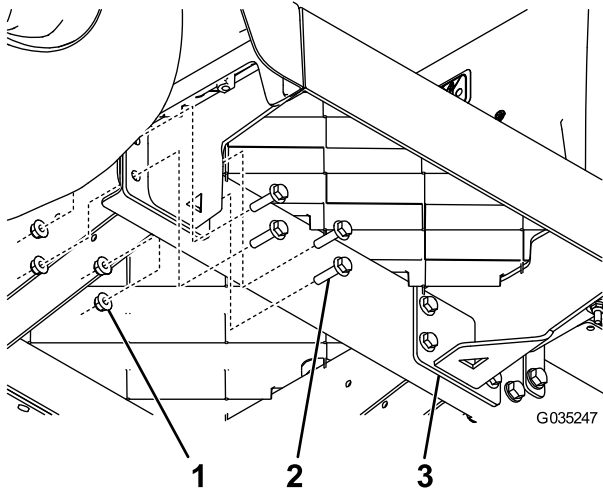

Figure 5
- Install a new floor-plate support using 8 flange-head bolts (5/16 x 1-1/4 inches) and 8 flange nuts (5/16 inch) as shown in Figure 5.
- Install the other new floor-plate support using 8 flange-head bolts (5/16 x 1-1/4 inches) and 8 flange nuts (5/16 inch) as shown in Figure 5.